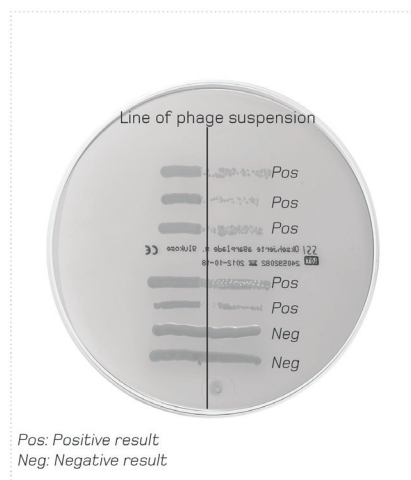

Figure 4. Result from phage typing.
The maximum number of tests per agar plate is limited to six bacterial cultures and one positive control (See figure 4).
Bacteria not expressing a phage receptor will not be infected and growth will be observed in the full length of the bacterial streak across the phage line (see figure 4).
4. Streak a horizontal line of live broth culture from left to right, crossing the phage suspension, using a 1 µL inoculation needle (see figure 4).